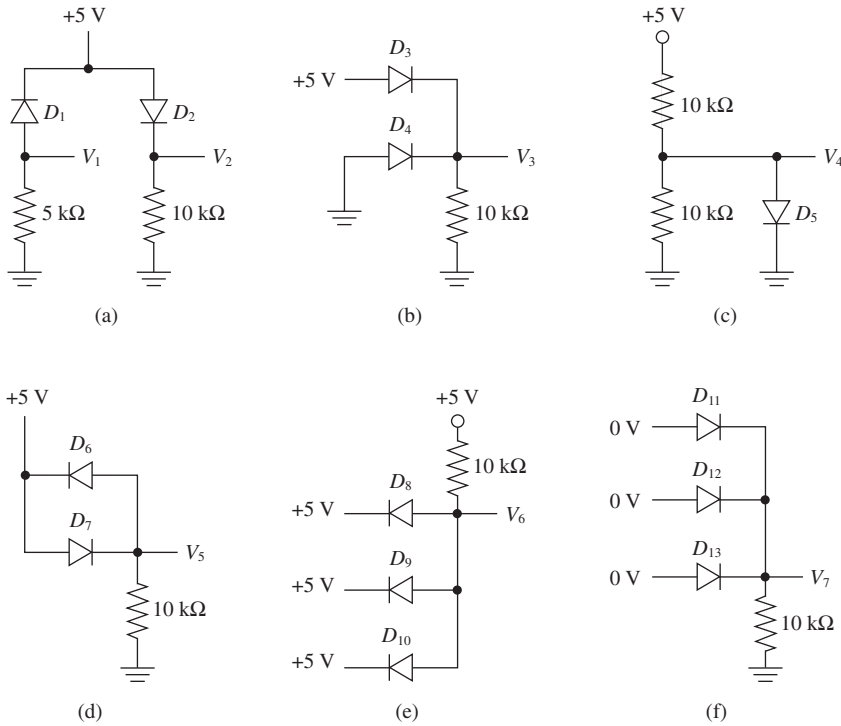

Figure P2-6
- 2-6. Determine if the diodes in Figure P2-6 are reverse or forward biased.
- C** 2-7. Determine V_1 , V_2 , V_3 , V_4 , V_5 , V_6 , and V_7 in the circuits of Figure P2-6.
- 2-8. In Figure P2-6, if the cathode of any one of the diodes D_8 , D_9 , or D_{10} is connected to 0 V instead of +5 V, what happens to V_6 ?
- 2-9. In Figure P2-6, if the anode of any of the diodes D_{11} , D_{12} , or D_{13} is connected to +5 V instead of 0 V, what happens to V_7 ?